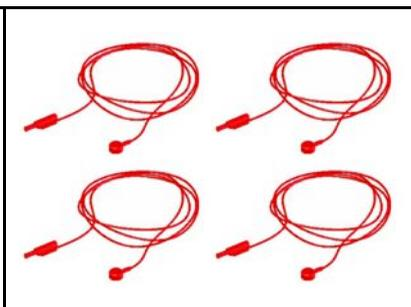

FIG. 3
- FIG. 3 CAVI DI USCITA ROSSO (cod. 80100.42) 4 pz